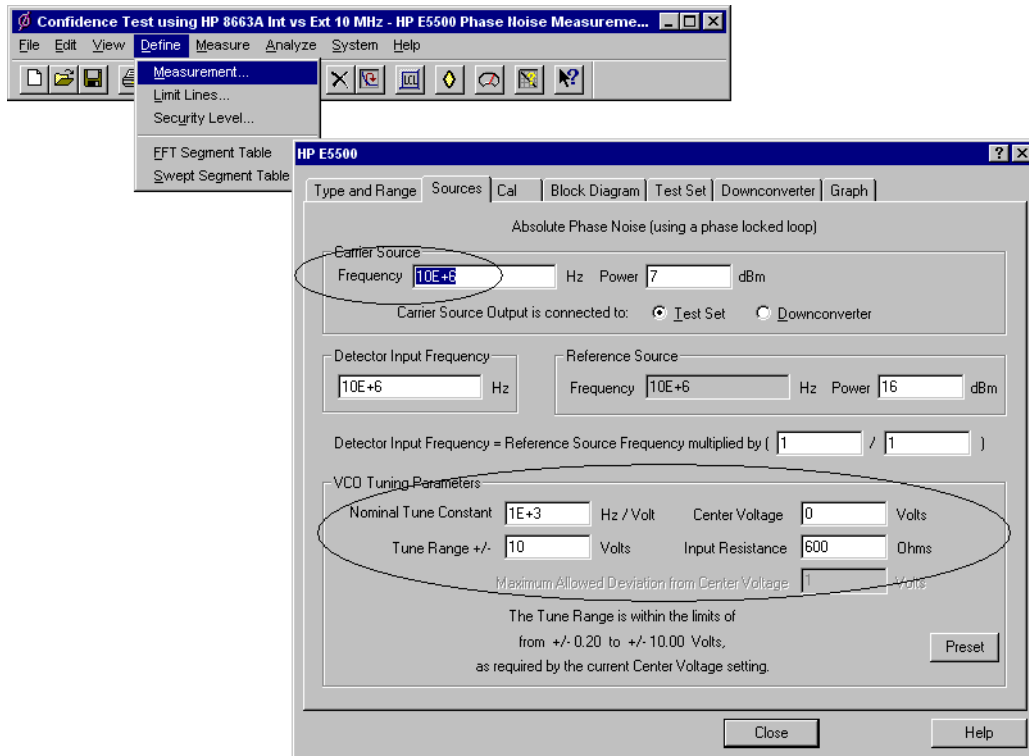

Figure 7-35 Enter Source Information
- 5 Using Figure 7-35 as a guide, navigate to the **Sources** tab.